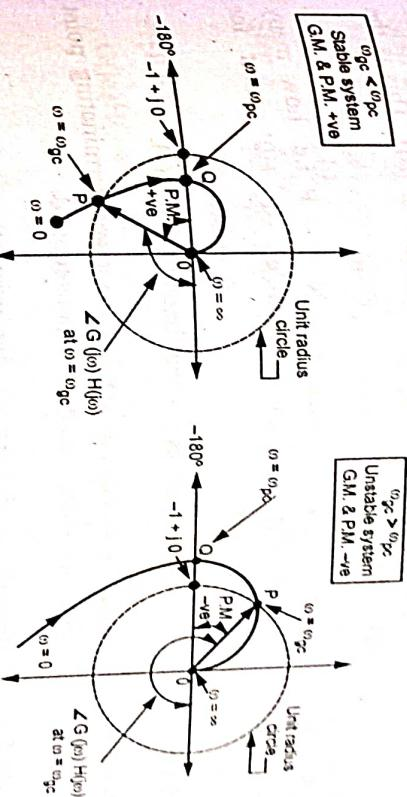

Fig. Q.21.1 (a) (b)
- So if  $\phi$  is the angle of point P corresponding to  $\omega = \omega_{gc}$  the P.M. is the angle subtended by the phasor OP with negative real axis. This is shown in the Fig. Q.21.1.